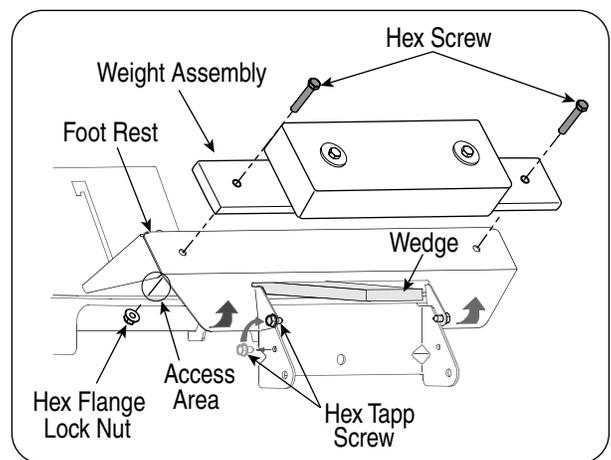

Figure 2
Because the openings between the foot rest and the tractor frame (Refer to Figure 2) provide only limited access for installing the hex flange lock nuts, it is recommended that you enlarge these access areas by temporarily raising the front of the foot rest. To raise the front of the foot rest, proceed as follows:
1. Remove the two hex tapp screws that secure the front tabs of the foot rest to the front bracket of the tractor frame. Refer to Figure 2.
2. Grasp the front of the foot rest and lift it upward. Use one (or both) of the following methods to hold the front of the foot rest in the raised position while installing the weight. See Figure 2.